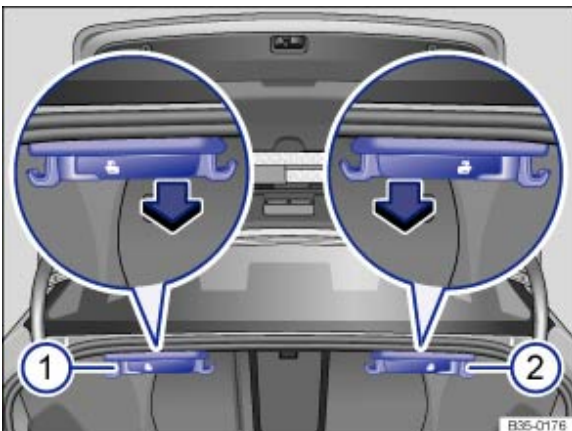

Fig. 103 In the luggage compartment: remote release lever for the left ① and the right ② parts of the rear backrest
- Push the remote release button for the left → Fig. 103 Ⓞ or the right → Fig. 103 Ⓞ parts of the rear backrest in the direction of the arrow. The unlocked part of the rear backrest folds down automatically.